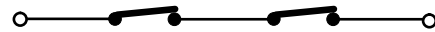

Fig. 12
N.B. If two or more devices have the same function (opening or closing), they should be connected to each other in series (see fig. 12). N.C. contacts must be used.
To install several STOP devices, connect the N.C. contacts in series (see fig.12).